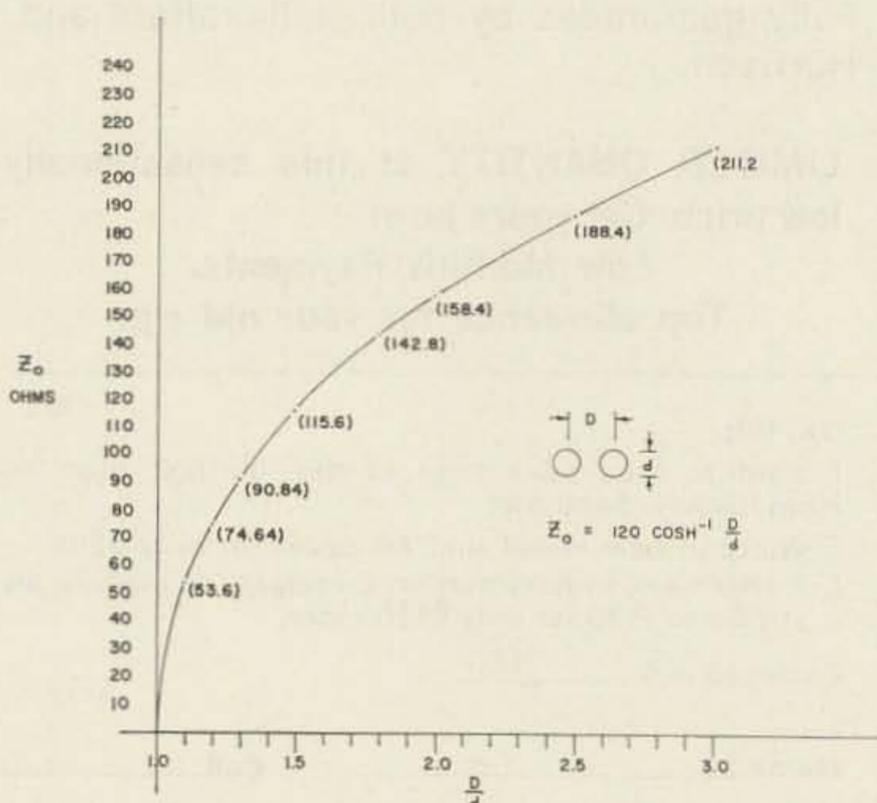

Fig. 1. Impedance of parallel lines.
where capital D is the center-to-center spacing between the two lines and small d is the diameter of the line. This assumes that both of the lines are equal in diameter. If they are not, it will not work. Fig. 1 is a plot of Z_0 versus the ratio of D/d. This formula applies to lines in air only, but reasonable results will be obtained if the box they are put in is at least larger in each dimension of width and height by a factor of two times the outside spacing dimension of the lines.
- (1) We have on hand lengths of 1 inch OD tubing.
- (2) We want to design a $\lambda/4$ resonant tank for 222 mc.
- (3) The maximum spacing available is $2\frac{1}{2}$ inches center-to-center to provide good clearance to the sides and bottom of the shielded enclosure.
- (4) The line length should be 6 inches or less to fit the space available.
- (5) The configuration will be a single ended plate/line using a $4 \times 150A$ tube.
- (6) If these are practical limits, what tuning capacitance will be required for resonance?
Step 1—Determine the line impedance Z_0 , by first finding D/d . In this case $2.5/1 = 2.5$, refer to Fig. 1 and determine the Z_0 for this ratio. In this case, it is 188 ohms.